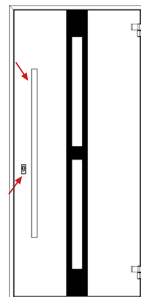

Fig. 26.
4. Mounting the fittings (Fig. 26)